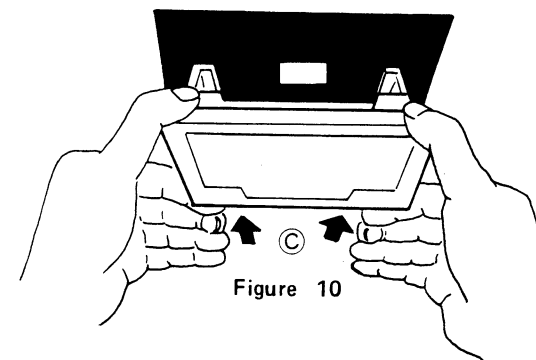

Figure 10
2. Press the top and bottom of cassette cover with fingers, and take it upward in the direction of the arrow (C). (See Figure 10).